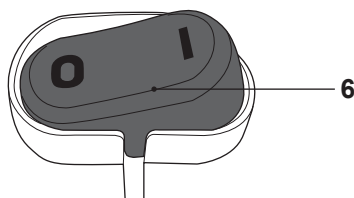

Fig. 16
- > Make sure the on / off switch (6) is in the off position O (Fig. 16).